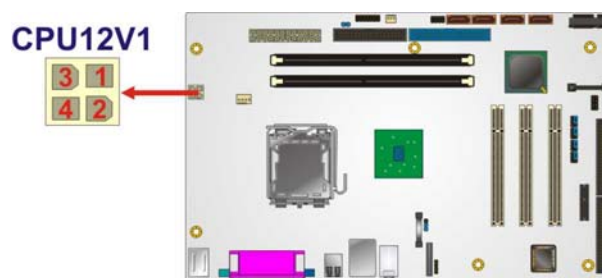

Figure 4-2: ATX Power Supply Connector (4-pins) Location
- CN Location:** See **Figure 4-2**